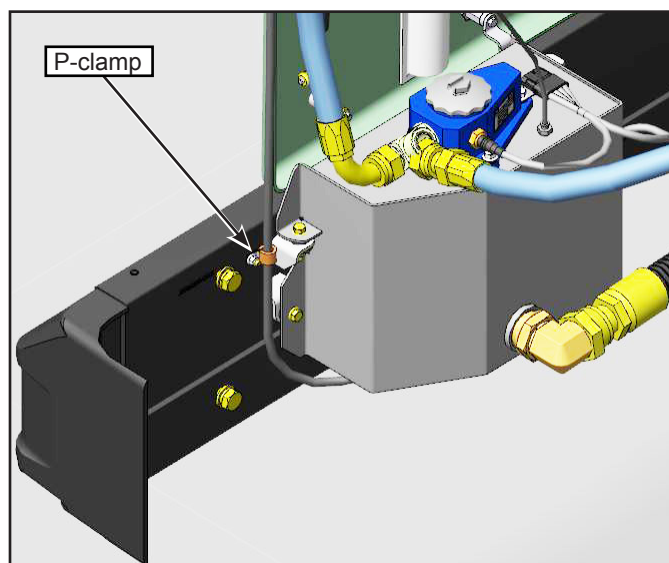

Figure 10 - Detach Braided Hose from Structure
- 1.7. Remove P-clamp holding the braided hose to the structure. See Figure 10.